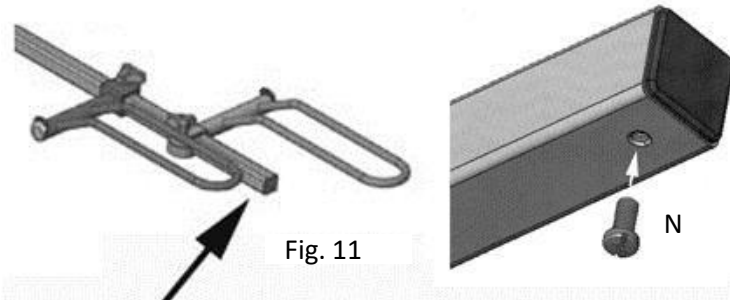

Fig. 11
After determining the final position of the wheel holders, install the two stop screws (N) into the bottom of the wheel tubes as indicated in Fig. 11. Use Phillips screwdriver.